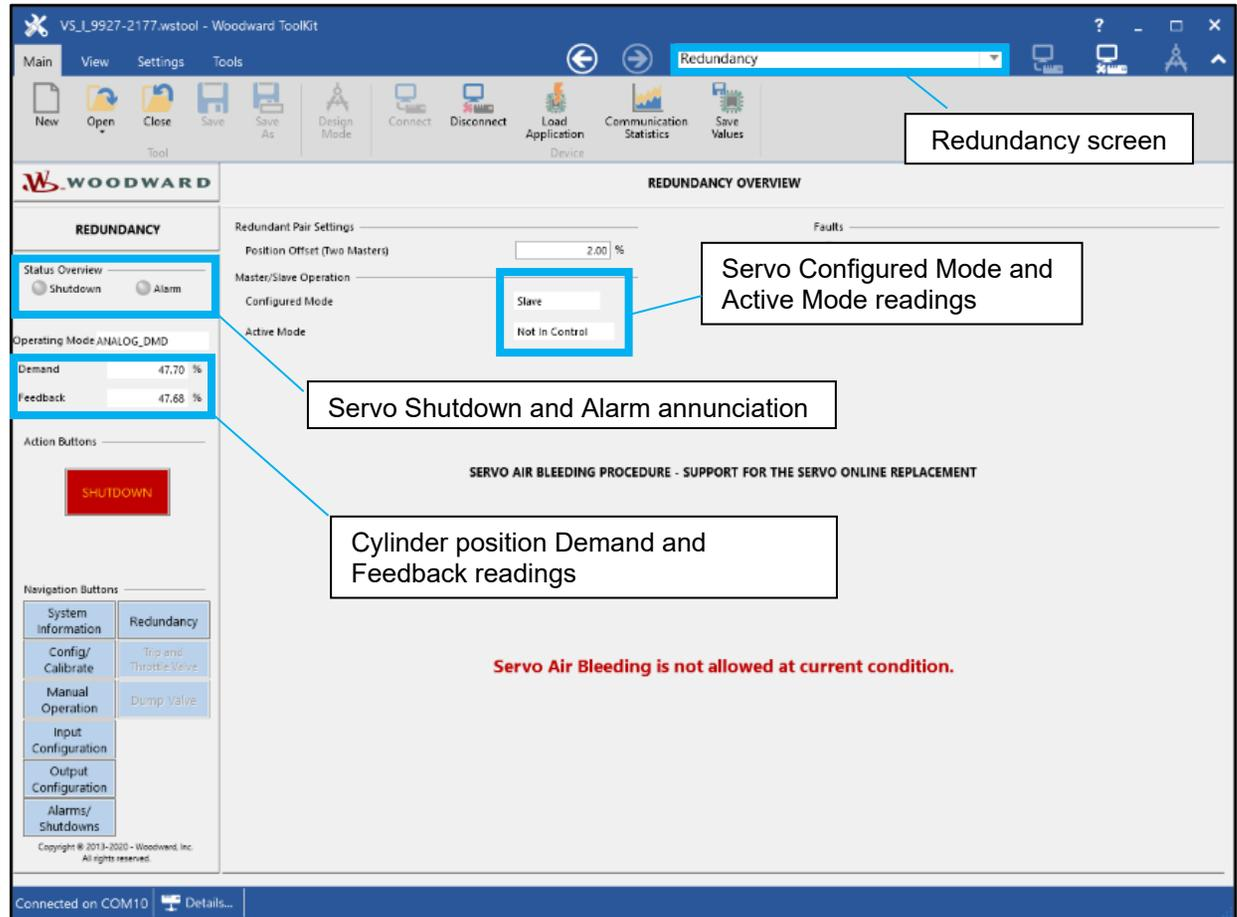

Figure 2-75. Redundancy Screen and Alarm/Shutdown Annunciation
59. Using the Customer Service Tool software, navigate to the Redundancy screen and verify if the configured mode on the newly installed VariStroke is **SLAVE** and Active Mode is **Not In Control** (Figure 2-75). If not, verify what the cause of the issue is with the unit (most likely incorrect wiring of Master/Slave designation or the control system has the wrong signal) [notate result in Checklist: ID #18].